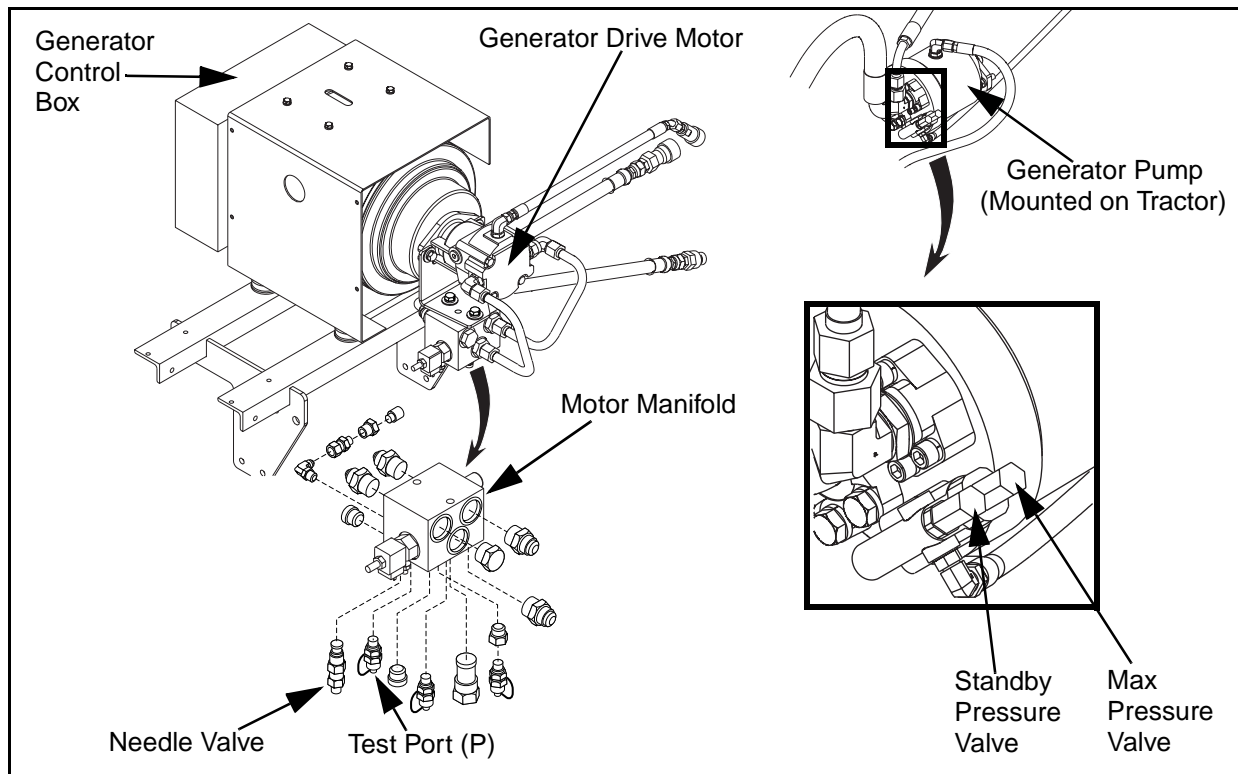

Figure 33 Screed Generator Hydraulic Pump Adjustments
This hydraulic pump circuit has three (3) valves which require adjustment, the needle valve (located on the drive motor manifold), and the pump standby and max pressure valves (both located on the pump) (Figure 33).
- 2) Install 6000 psi gauge on test port (P) of generator drive motor manifold. (Figure 33)